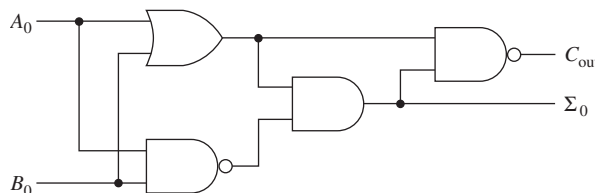

Figure P19
- C** 19. The circuit in Figure P19 is an attempt to build a half-adder. Will the C_{out} and Σ_0 function properly? (*Hint: Write the Boolean equation at C_{out} and Σ_0 .*)